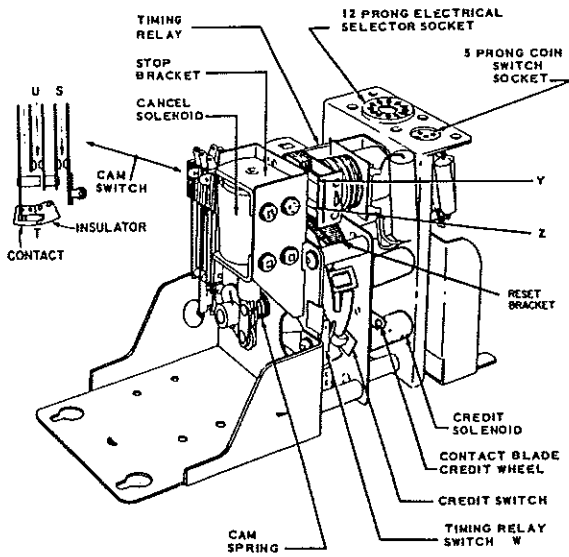

Figure 2.
The principle parts of the unit are three credit solenoids, a cancel solenoid, two cam operated switch groups and a timing relay. These may be identified in *Figure 2*.
3. Set the end of the Cam Spring in the first hole in the panel. The Cam Spring may be identified in Figure 2. Check operation by closing all snap-action credit switches and allow the Cam Spring to rotate the switches past the reset bracket. This should be checked slowly to determine if the Spring pressure is adequate to reset the switches without benefit of inertia. If more spring pressure is required, move to the second hole and repeat the test. Use the lowest spring pressure (consistent with positive operation) to insure minimum wear and optimum low voltage operation.